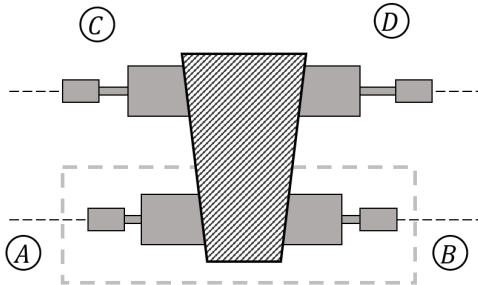
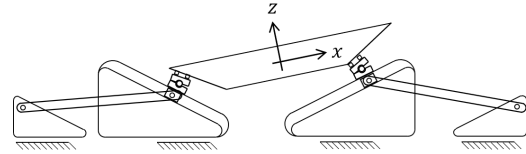

Figure 1: Top view of the full-mechanism.
Figure 2: 2D mechanism.
In this section the mechanism's behaviour is studied. In Figure 1 is shown the top view of the mechanism.
The mechanism studied in the 2D simplification is the marked part in Figure 1, in fact only bodies (A) and (B) are taken into account, and the result is shown in Figure 2.